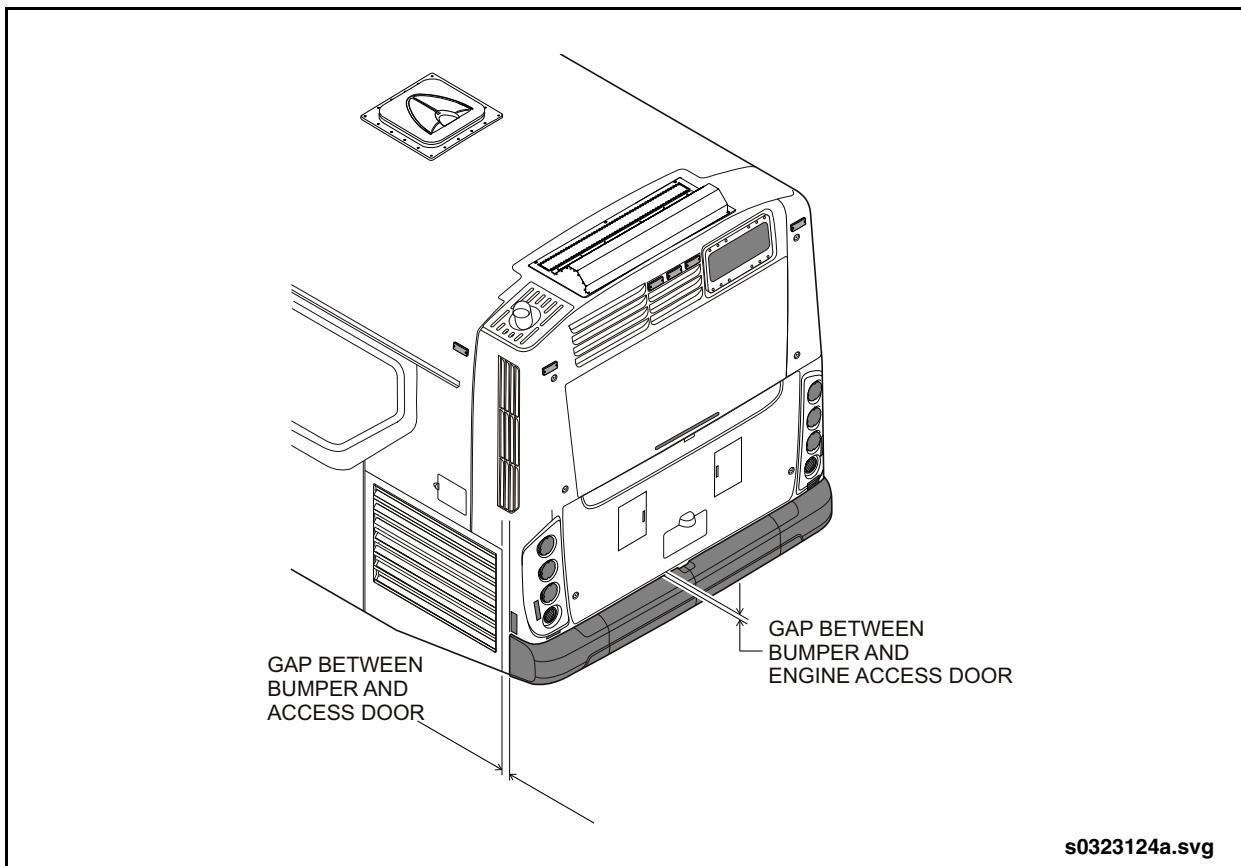

Fig. 13-14: Rear Bumper Gap Adjustment
7. Snug up the bolts while simultaneously positioning the bumper to achieve a consistent vertical gap of 0.28 to 0.38 in. (7 to 10 mm). between the top of the bumper and the engine access door. See “Fig. 13-14: Rear Bumper Gap Adjustment” on page 40.